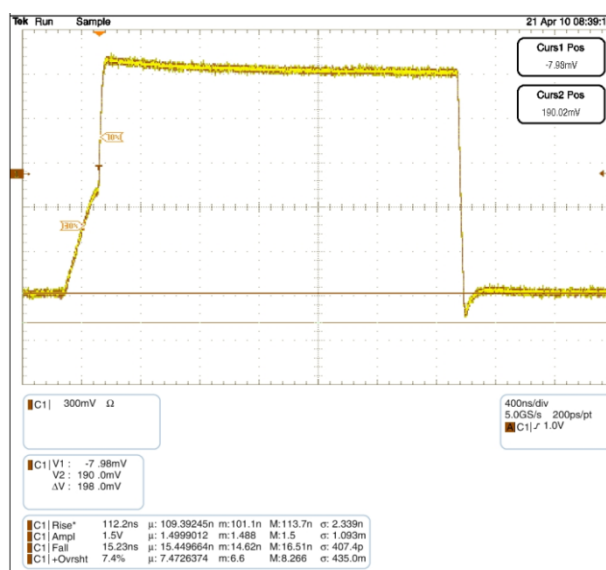

Figure 5. FXMA2102 Waveform C: 600 pF, RPU: 2.2 K
Due to I2C's open-drain topology, I2C masters and slaves are not push/pull drivers. Logic LOWs are “pulled down” ( $I_{sink}$ ), while logic HIGHs are “let go” (3–state). For example, when the master lets go of SCL (SCL always comes from the master), the rise time of SCL is largely determined by the RC time constant, where  $R = R_{PU}$  and  $C =$  the bus capacitance. If the FXMA2102 is attached to the master [on the A port] in this example, and there is a slave on the B port, the Npassgates act as a low resistive short between both ports until either of the port's  $V_{CC}/2$  thresholds are reached. After the RC time constant has reached the  $V_{CC}/2$  threshold of either port, the port's edge detector triggers both dynamic drivers to drive their respective ports in the LOW-to-HIGH (LH) direction, accelerating the rising edge. The resulting rise time resembles the scope shot in Figure 5. Effectively, two
The FXMA2102 dynamic drivers have enough current sourcing capability to drive a 400 pF capacitive bus. This is beneficial for instances when an I2C buffer / repeater is required. The I2C specification stipulates a maximum bus capacitance of 400 pF. If an I2C segment exceeds 400 pF, an I2C buffer / repeater is required to split the segment into two segments, each of which is less than 400 pF. Figure 5 is a scope shot of an FXMA2102 driving a lumped load of 600 pF. Notice the (30% – 70%) rise time is only 112 ns ( $R_{PU} = 2.2$  K). This is well below the maximum edge rate of 300 ns. Not only does the FXMA2102 drive 400 pF, but it also provides excellent headroom below the I2C specification maximum edge rate of 300 ns.